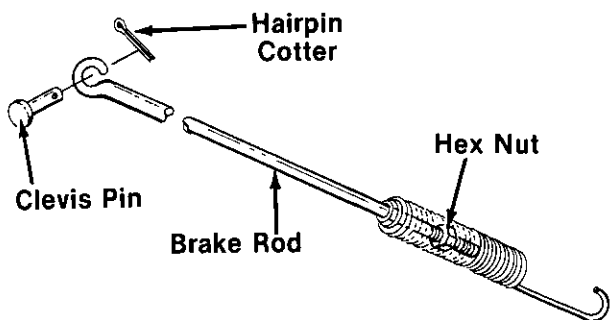

FIGURE 15.
- If there is no more adjustment left at the two nuts, tighten the hex nut on the end of the brake rod, under the spring. See figure 15. Remove the hairpin cotter and clevis pin from the other end of the brake rod to disconnect it, and tighten the nut.